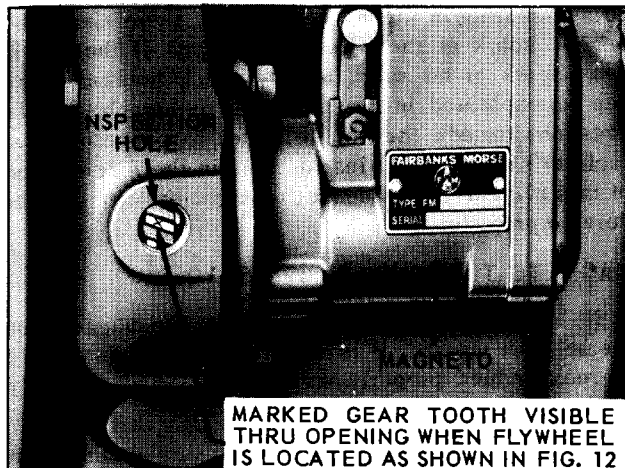

Fig. 14 208069C
4. Mount magneto to engine, meshing the gears so that when the magneto is in place, the 'X' marked tooth on the magneto gear will be visible in the center of the **inspection hole** of the crankcase as shown in Fig. 14.